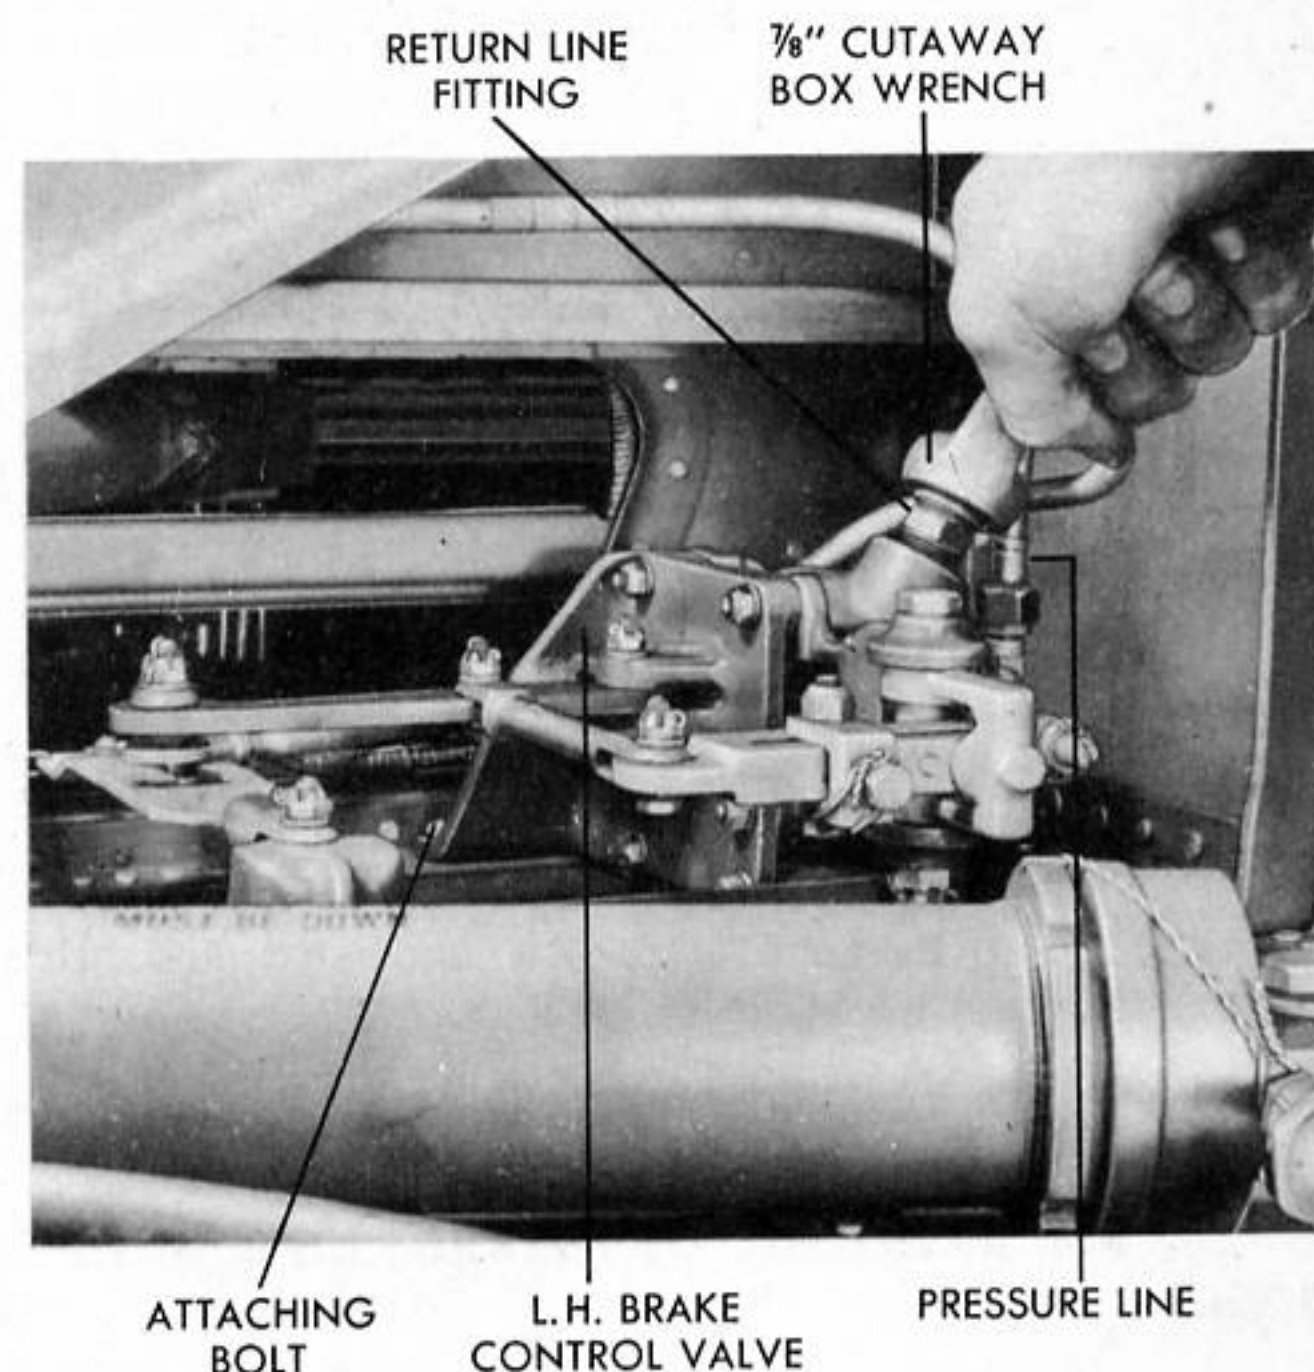

Figure 208 - REMOVING BRAKE CONTROL VALVE
(19) REMOVAL OF BRAKE CONTROL VALVE. (See figure 208.)